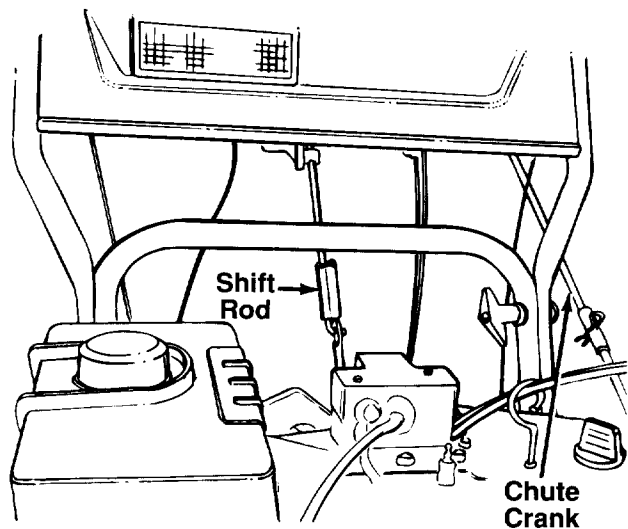

FIGURE 3.
7. Slide the locking tube over the end of the shift rod. See figure 3.
8. Slide the handle end of the chute crank into the tube on the lower chute crank and secure with the cotter hairpin. See figure 3.